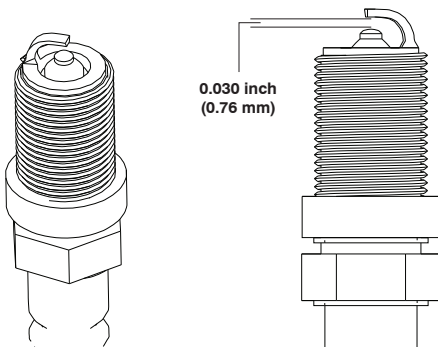

Figure 31
18. Set the gap on the plug to 0.030 inch (0.76 mm) (Figure 31).